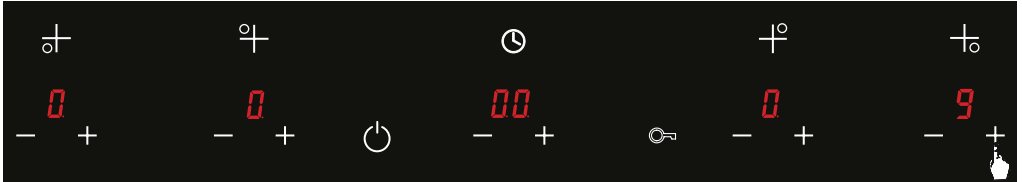

Figure 65
1. Press the **+** key of the relevant hob to set the temperature level as **9**. (See Fig. 65)